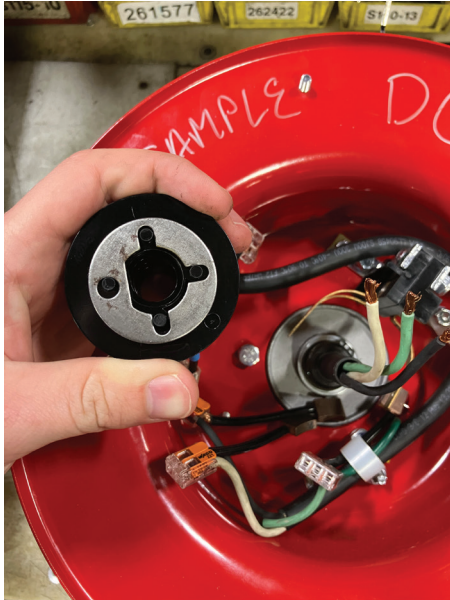

Figure 1: Locating plate correctly on the slip ring
7. Install new collector ring assembly onto main shaft and ensure proper seating onto locating plate as shown in figures 1 and 2.